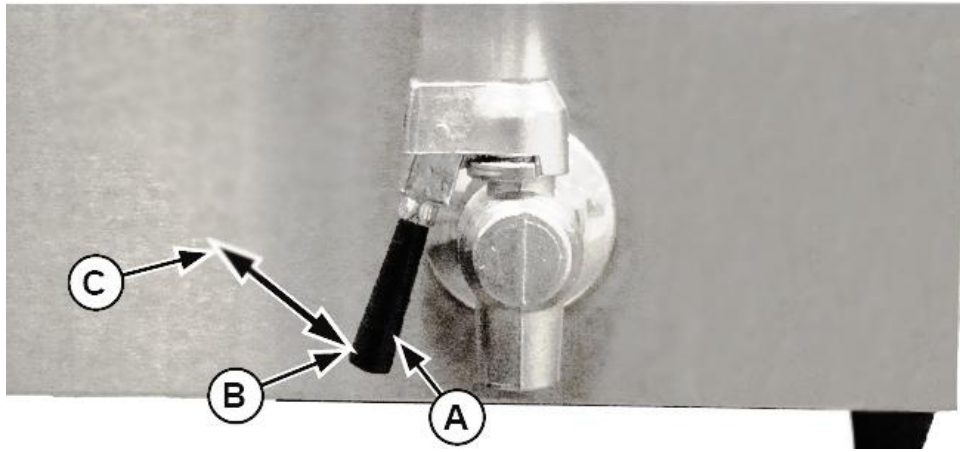

Fig 5. Valve Closed Position.
8. When cooking is finished after the day, the oil must be removed from the oil tank and stored elsewhere. This procedure **MUST** only be carried out when the oil is **COMPLETELY COOL**. When the oil temperature cools down, put a metal container under the drain valve. Lift drain valve (A) up (C) and slowly rotate to the open position (B) (See Fig. 5 and 6). After the oil has drained close the drain valve (A) by turning to the closed position (B) (See Figures 5 and 6)